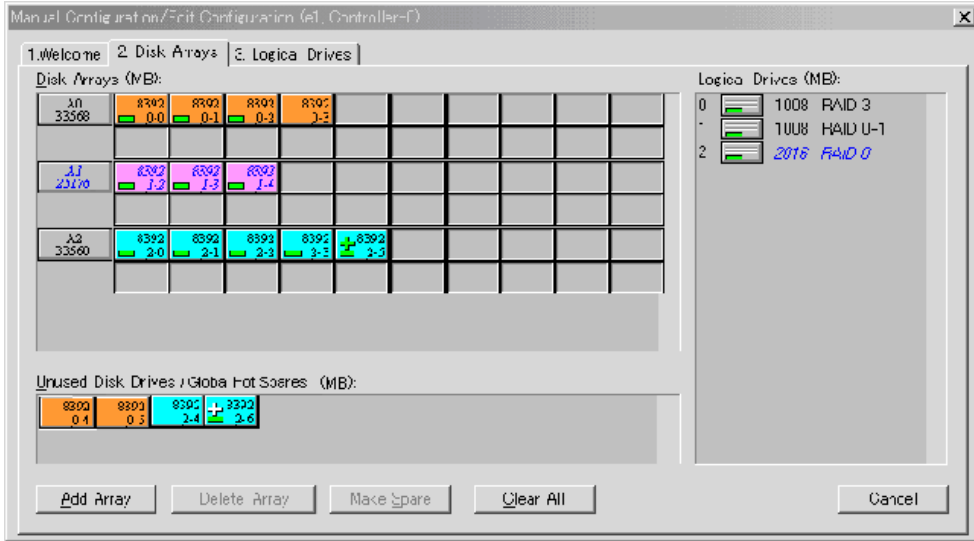

Figure 4-27. Creating a Dedicated Hot Spare
8. If you want the Global Hot Spare to be a Dedicated Hot Spare drag and drop it to the disk array that the Global Hot Spare belongs to (see Figure 4-27).
A Dedicated Hot Spare is created, and a green plus sign indicates the physical disk drive has changed to a Dedicated Hot Spare (see Figure 4-27).